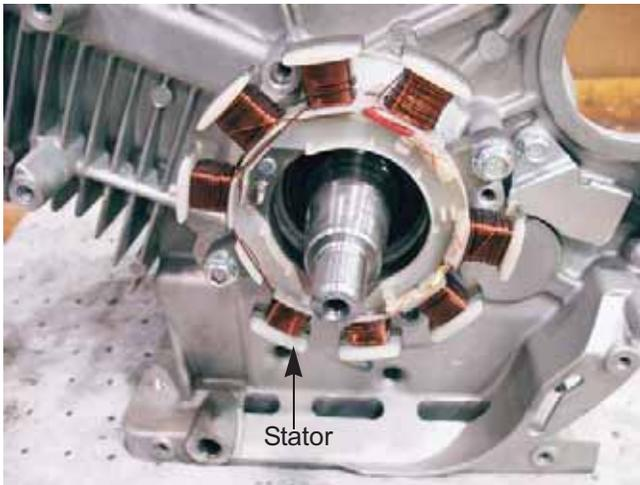

Figure 6.15
- Alternator stator: The stator consists of copper field windings around an iron core. The stator is attached to the engine block beneath the flywheel. See Figure 6.15.